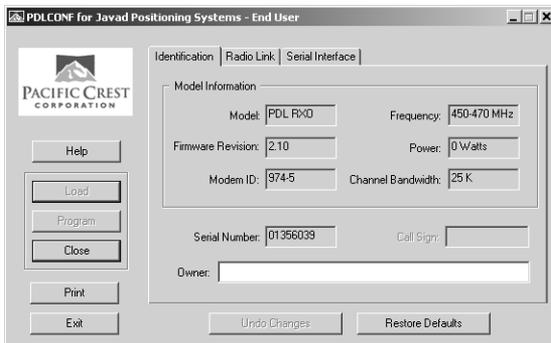

Figure 2-29. PDL Identification Tab
10. On the Identification tab, type Owner information (Figure 2-29).